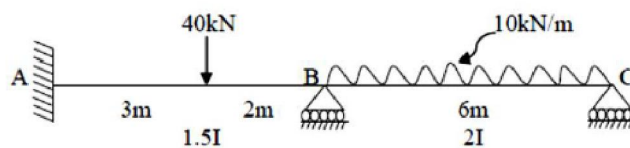

Fig.1
- 1 a) Explain the term static indeterminacy with two examples. (5)
b) Analyse the continuous beam shown in fig.1 by Three moment equation and draw the BMD and SFD. Given $EI = 3200 \text{ kNm}^2$. (10)